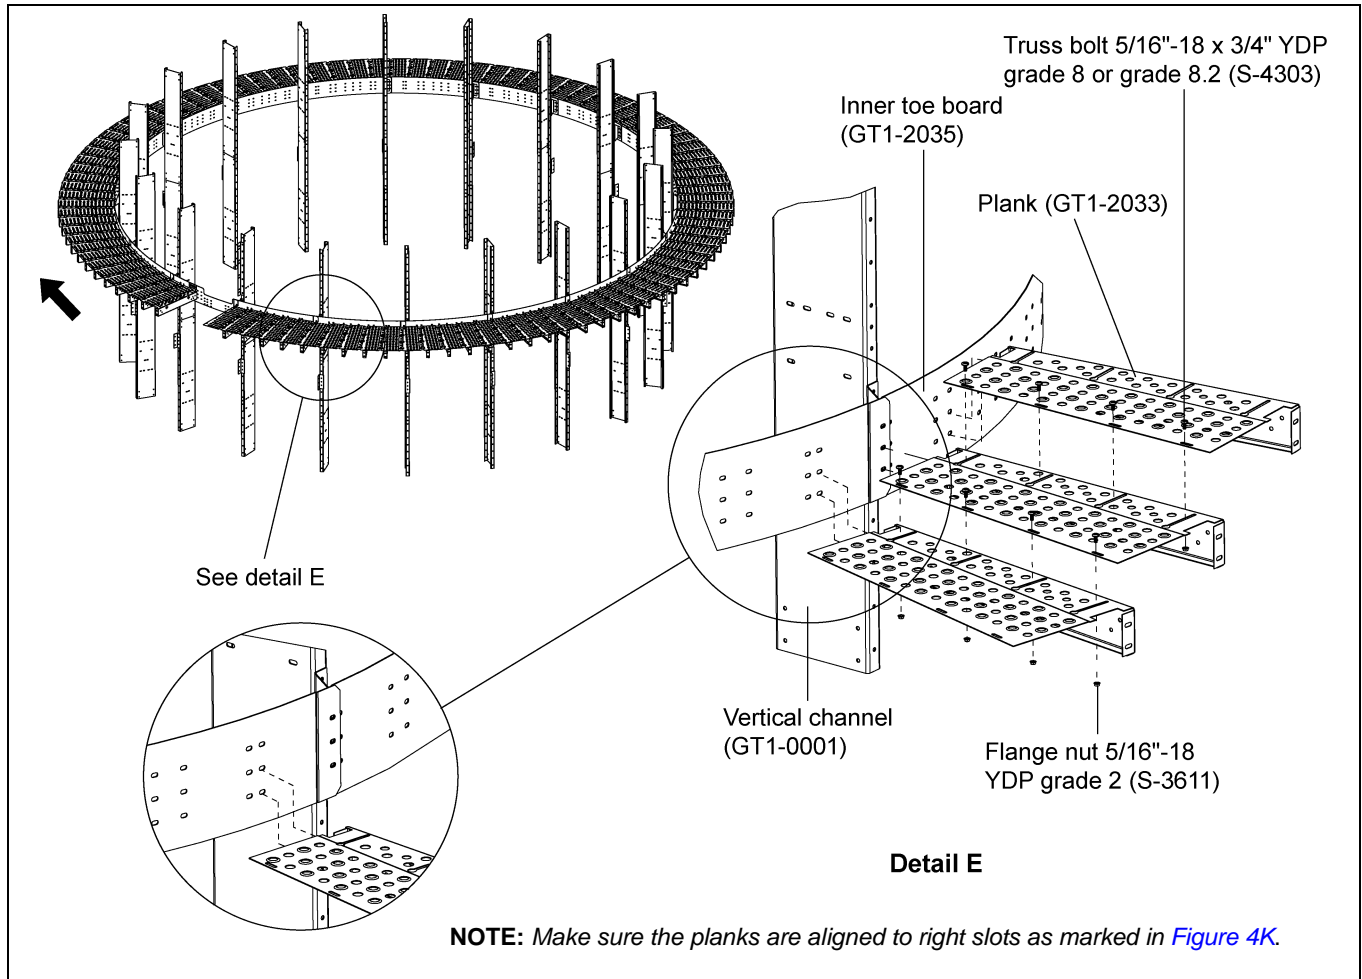

Figure 4J
1. Install planks around the dryer on inner toe board starting from ladder opening toe board (GT4-1465) as shown by arrow in the *Figure 4J*.
2. Planks (GT1-2033) are installed to bottom two (2) holes of the inner toe board (GT1-2035) using 3/8"-16 x 1" YDP grade 8 or grade 8.2 bolts (S-7927) and 3/8"-16 ZN grade 5 nuts (S-968). (See *Figure 4J*.)